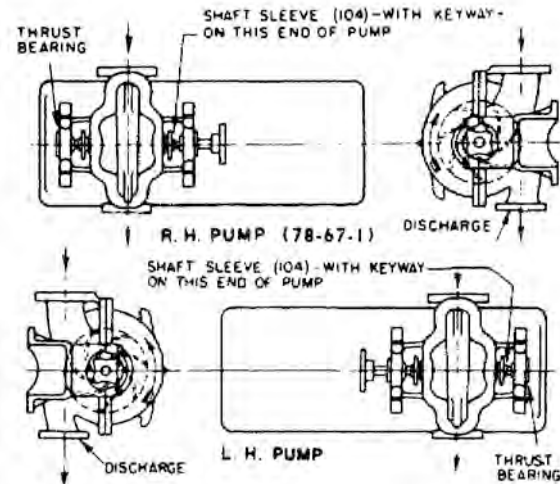

Figure 15:
1. Check shaft to see that it is not bent or otherwise damaged, and that it is also smooth and clean. Inspect "O" Rings (412 and 412A). Replace if damaged. Position "O" Rings (412) inside shaft sleeves as shown in the 7.3 Sectional view on page 33.
2. Determine the correct setting of the impeller and sleeves on the shaft in relation to the rotation of the pump. To do this, face the discharge flange of pump. The locking shaft sleeve must be on the right as shown in Figure 15: on page 41 and the impeller must rotate in correct relation to the casing as shown in the end views in Figure 15: on page 41.